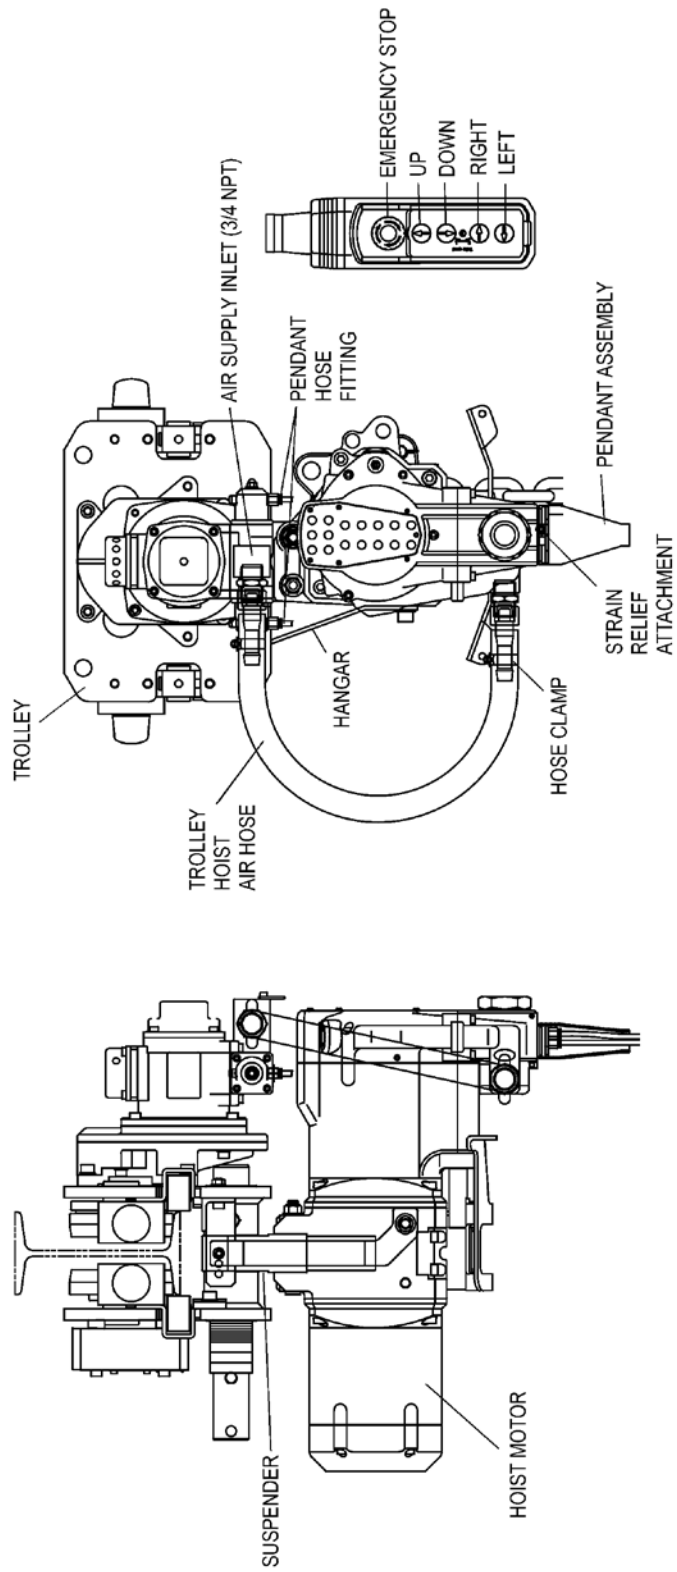

Figure 3-10 TCL Air Supply and Pendant Hose Connections
3.10.1 **⚠ CAUTION** System Configuration – The system should be configured as shown in Figure 3-10. Since moisture tends to accumulate in compressed air systems, corrosion may result if the system is not periodically drained.